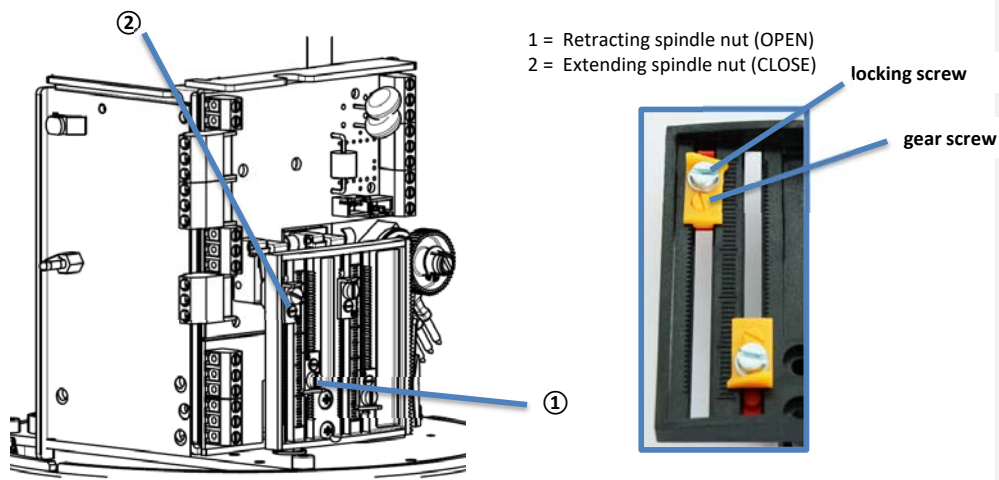

Figure 8: Adjusting switching cams
- Slacken-off the fixing screw on the corresponding switching cam (Figure 8), move the cam towards the limit switch until it clicks, and re-tighten the fixing screw.
- Unlock the fixing screw ① on the corresponding switching cam (Figure 8), use the gear screw ② to move the cam towards the limit switch until it activates, and re-tighten the locking screw.
- Unlock the fixing screw on the corresponding switching cam (*Figure 8*), move the cam towards the limit switch until it clicks, and re-tighten the fixing screw.
- Unlock the fixing screw on the corresponding switching cam (*Figure 8*), move the cam towards the limit switch until it activates, and re-tighten the fixing screw.